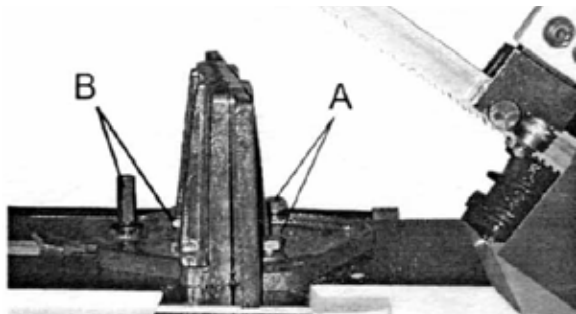

Figure 19. Vise Jaw
1. Loosen bolts and move vise jaw (Figure 19, **A**) to desired angle.